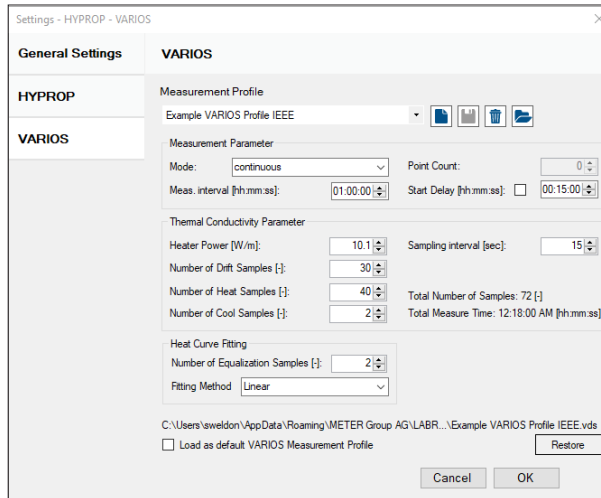

Figure 27 Example VARIOS IEEE 442-2017 standard measurement profile
- VARIOS point-by-point measurement mode (Figure 27)